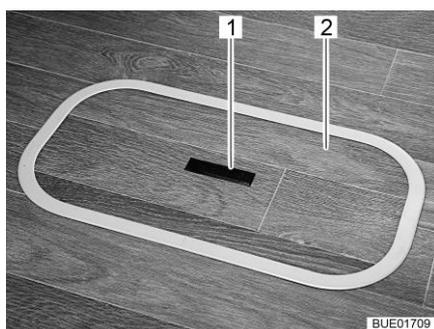
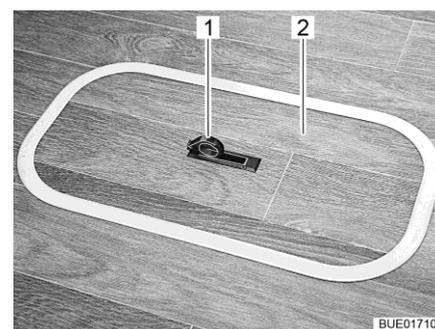

Fig. 64 Floor compartment cover
Fig. 65 Floor compartment cover
- Push one side of the grip plate (Fig. 64,1) downwards. The handle (Fig. 65,1) swivels upwards.
- Remove the cover (Fig. 64,2 or Fig. 65,2) upwards.